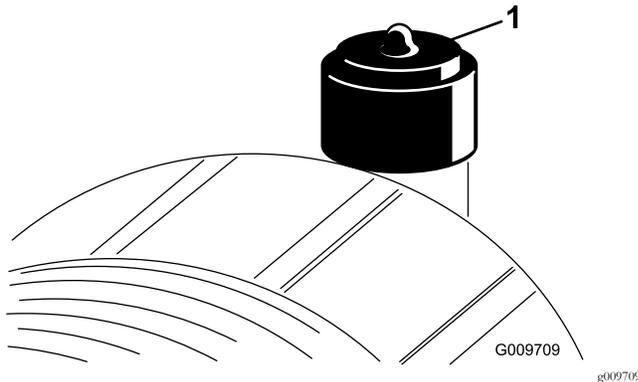

Figure 44
- Replace the air cleaner element when the air-cleaner indicator (Figure 44) shows red. Do not over-clean the air-filter element.